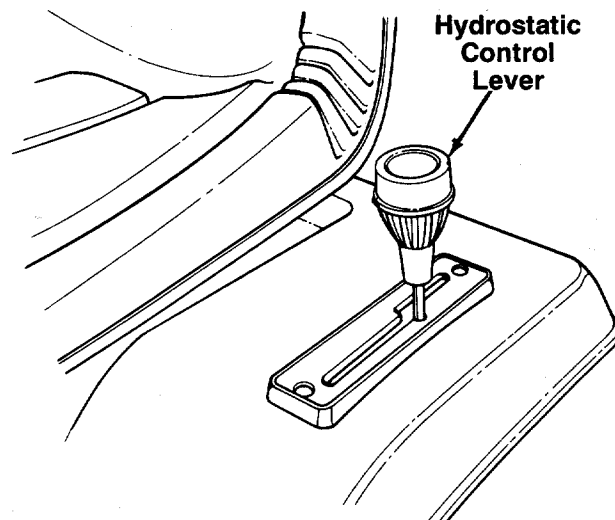

FIGURE 12.
The hydrostatic control lever is located on top of the fender on the left side of the tractor. This single control lever, connected to the hydrostatic transmission, controls both the speed and direction of the tractor. Infinite speed control is achieved by moving the control lever forward or backward. The farther forward or backward you move the control lever, the faster you will travel. Pulling the control lever into neutral (N) area will stop the tractor. To increase rear wheel torque (pulling power), move the control lever towards neutral (N) position. The lawn tractor responds similar to shifting to a lower gear with a gear type transmission. See figure 12.